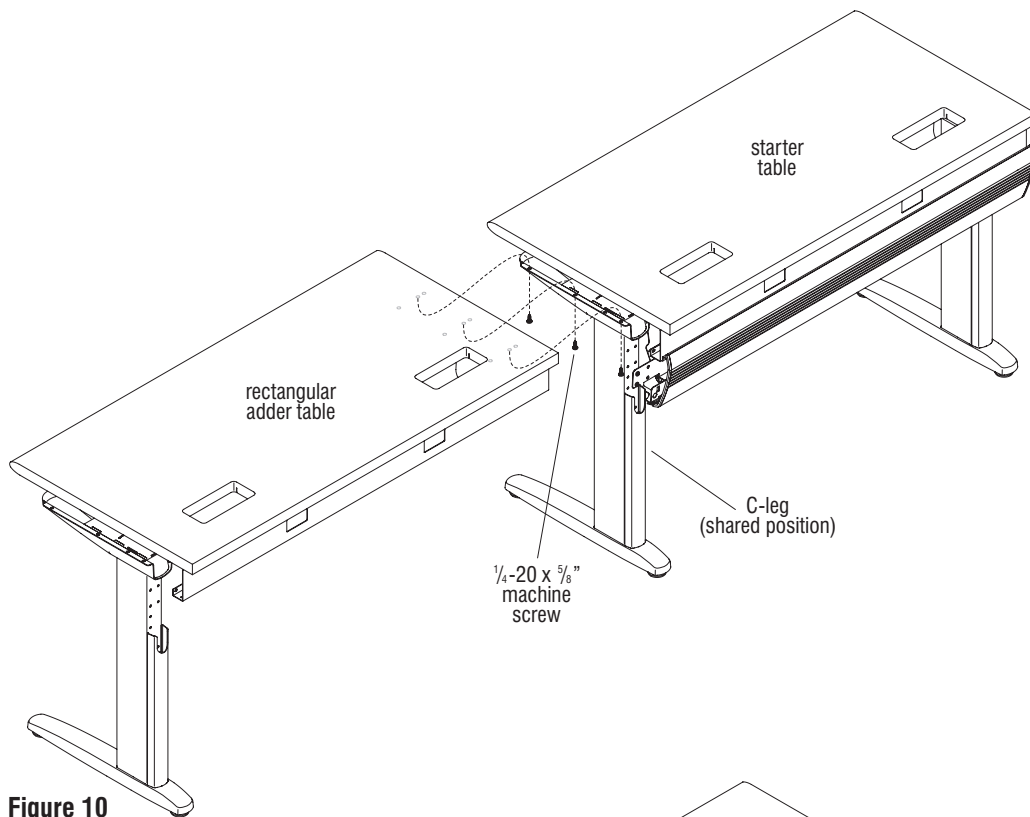

Figure 10
Note: The order of assembly can be reversed depending on your configuration, but for consistency in these instructions, all tables will be assembled from left to right. When positioned at a table at the user side, a starter table is the left-hand table and begins the run of ganged tables with one end-of-run leg and one shared leg (Figure 10).
1. Carefully turn the starter table to the upright position and move the table to its approximate final location of use (Figure 10).
3. With the assistance of a second person, carefully turn the adder rectangular table, to be connected to the next table in your configuration, to the upright position. Rest the no-leg end of the worksurface or wheelchair accessible kit onto the shared leg of the previous unit. Align the mounting holes on the leg with the adder worksurface or kit holes and secure together using three 1/4-20 x 5/8 inch machine screws. If the screws are securing the legs to the wheelchair kit, at the threaded end of each bolt, twist a 1/4-20 nut on until snug (Figure 10 & Detail N).